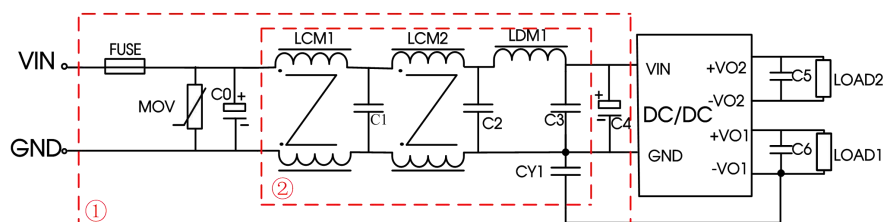

Fig. 4
RE	CISPR32/EN55032 CLASS B (see Fig.4-② for recommended circuit)